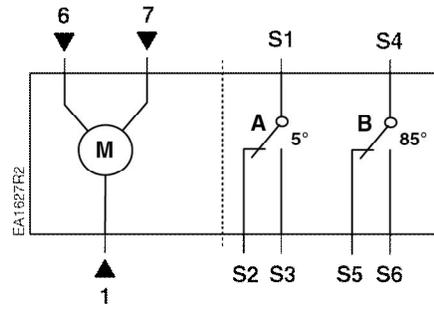

Figure 6.
1. Connect all wires per Figure 6.